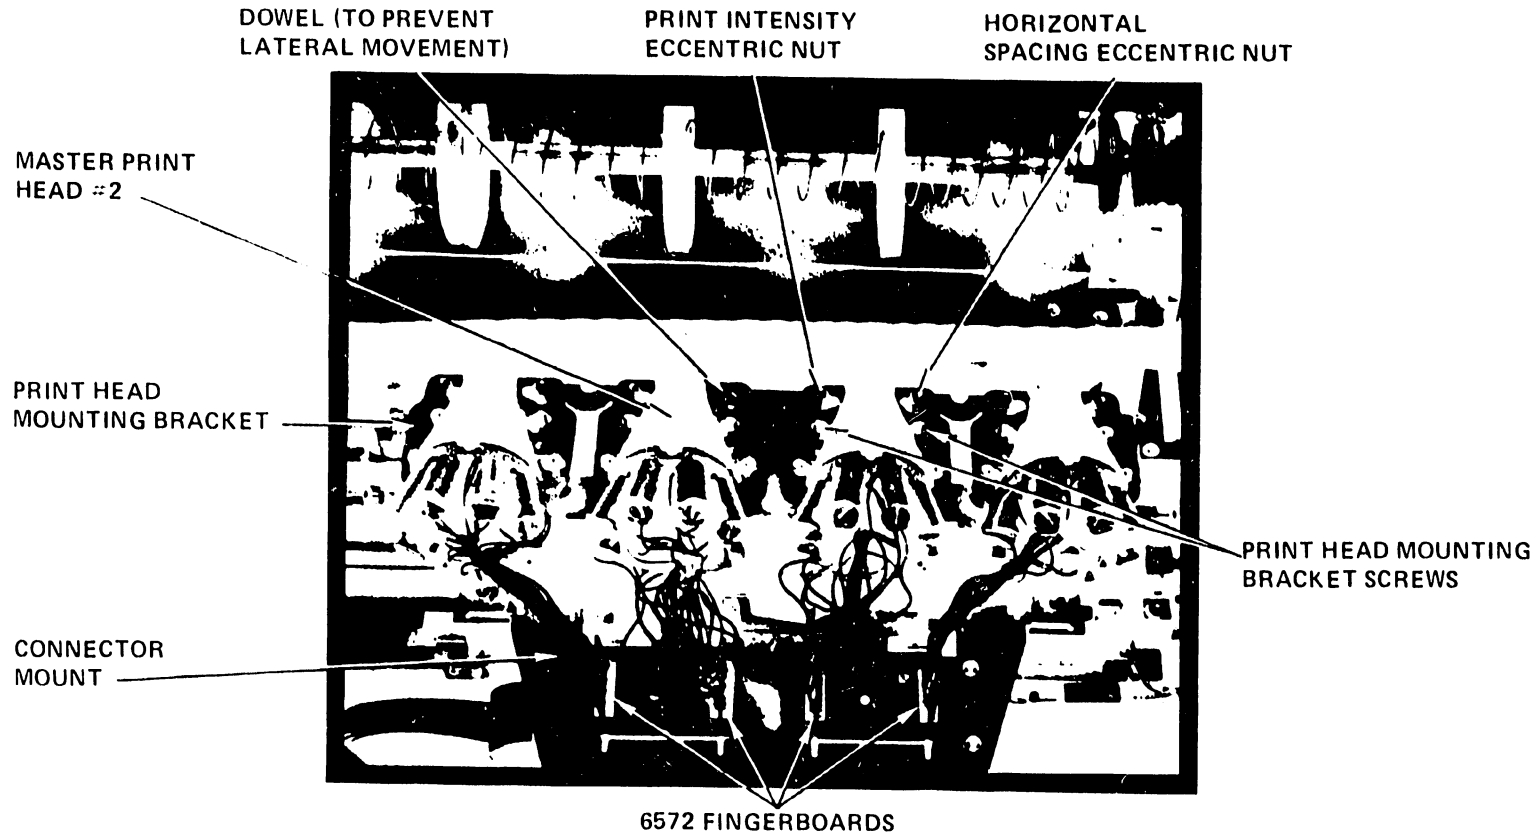

Figure 5-31. Print Head Carriage
5. To adjust a print head for the proper gap, loosen the four Allen head screws on the head mounting bracket. Turn the eccentric (1/4" nut, front-left on bracket) clockwise or counterclockwise until the correct gap is obtained. Tighten the four Allen head screws. See Figure 5-31.
2. Turn the horizontal spacing eccentric (1/4" nut, front-right on bracket) clockwise or counterclockwise, thus moving the head left or right as needed. See Figure 5-31. Retighten the four Allen head screws.